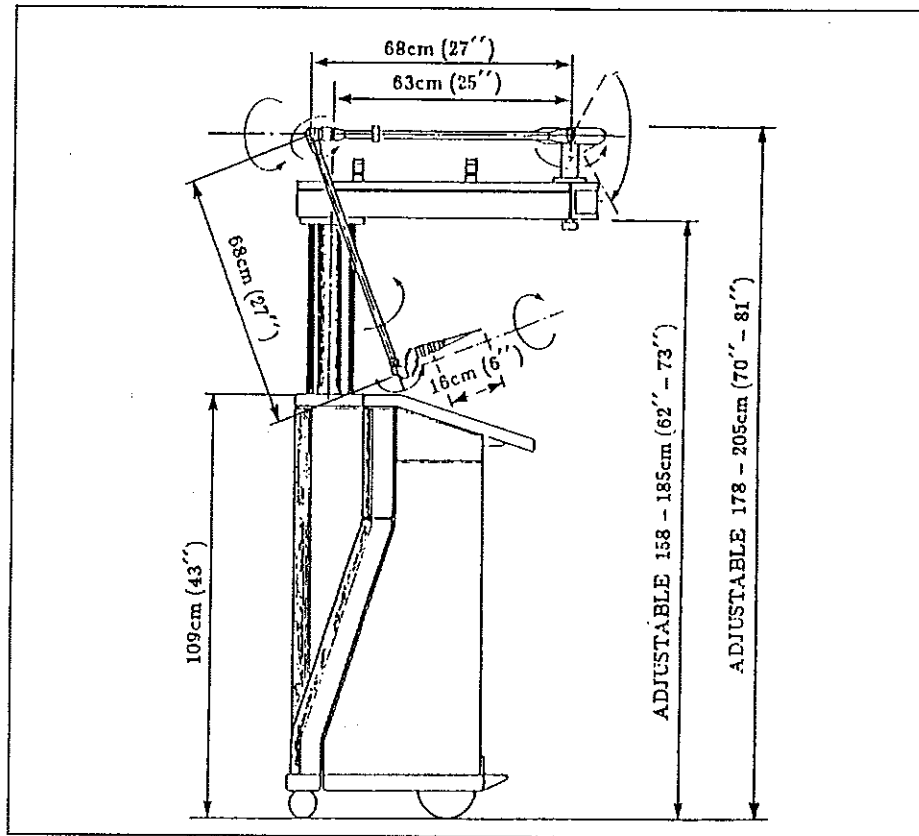

Figure 2-1. Dimensional Drawing - Side View
The working area for the SHARPLAN 1041S unit should be prepared according to the dimensions shown in Figures 2-1 and 2-2. The length of the unit's power cable is 3.5m. The unit should be positioned at least 50cm (20") from the wall (or other obstructions to air flow) to guarantee adequate ventilation. After the unit is properly positioned, press the brake pedal (see Figure 4-1, item 14) to lock the wheels of the unit.